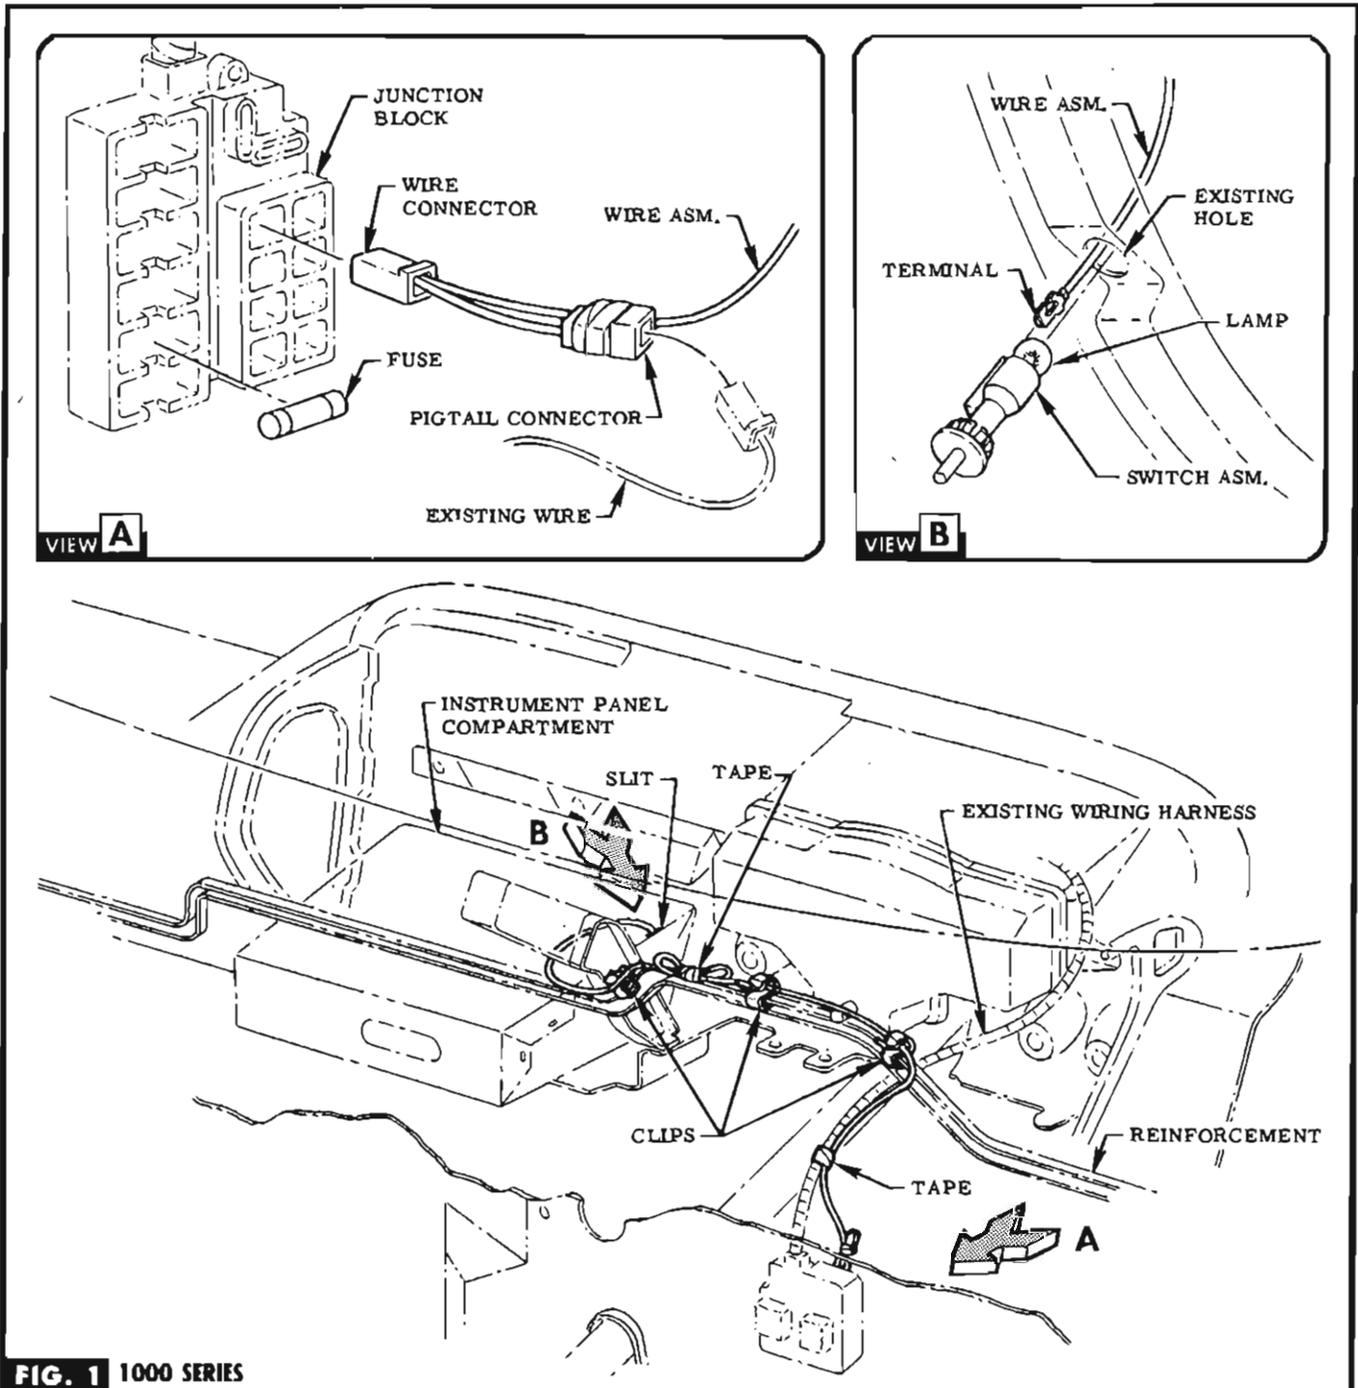

FIG. 1 1000 SERIES
STEP 10 PULL TERMINALS OF BROWN & GRAY WIRES OUT THRU DRILLED HOLES. INSERT THEM INTO METAL CONNECTORS ON END OF JAMB SWITCHES & PUSH SWITCHES INTO PLACE. SEE FIG. 1 & 4.
STEP 1 ROUTE WIRE TERMINAL THRU SLIT IN UPPER LEFT HAND CORNER OF INSTRUMENT PANEL COMPARTMENT & THRU HOLE IN UPPER LEFT SIDE OF COMPARTMENT OPENING. SEE FIG. 1 & VIEW B.
HARNESS CLOSE TO JUNCTION BLOCK. SEE FIG. 1.
STEP 6 LOOP EXCESS WIRE & TAPE. SEE FIG. 1.